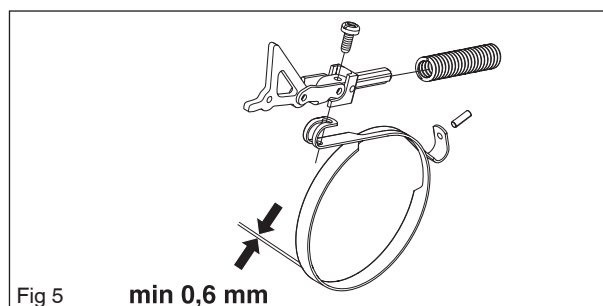
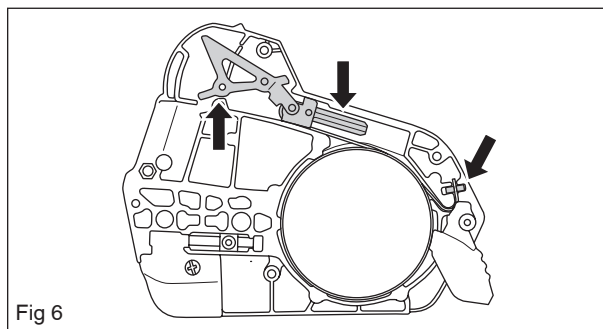

Fig 5
Fig 6
- Measure the thickness of the chain brake band. It must not be less than 0.6 mm in any place. See figure 5.
1. Screw the knee joint and the brake band together (see figure 5) using a tightening torque of 1-2 Nm. Place the knee joint with the fitted chain brake band in the opening in the clutch cover. The space for the spring in the cover must be lubricated with grease. See figure 6.